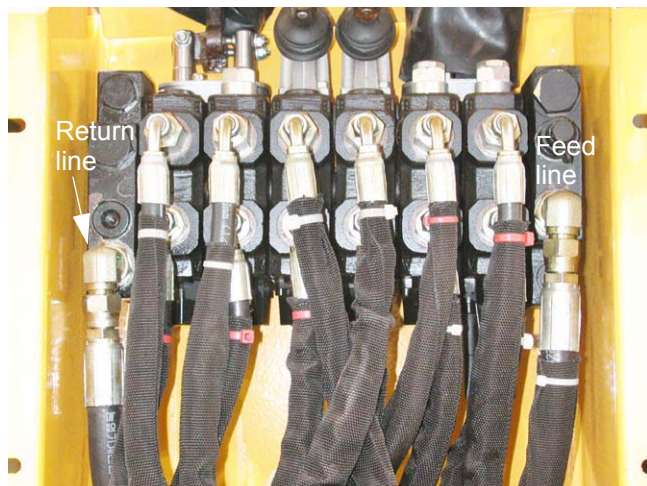

Figure 1.38
- 1.38. Remove the cover from the backhoe control console using a pair of 13mm wrenches. See Figure 1.38.